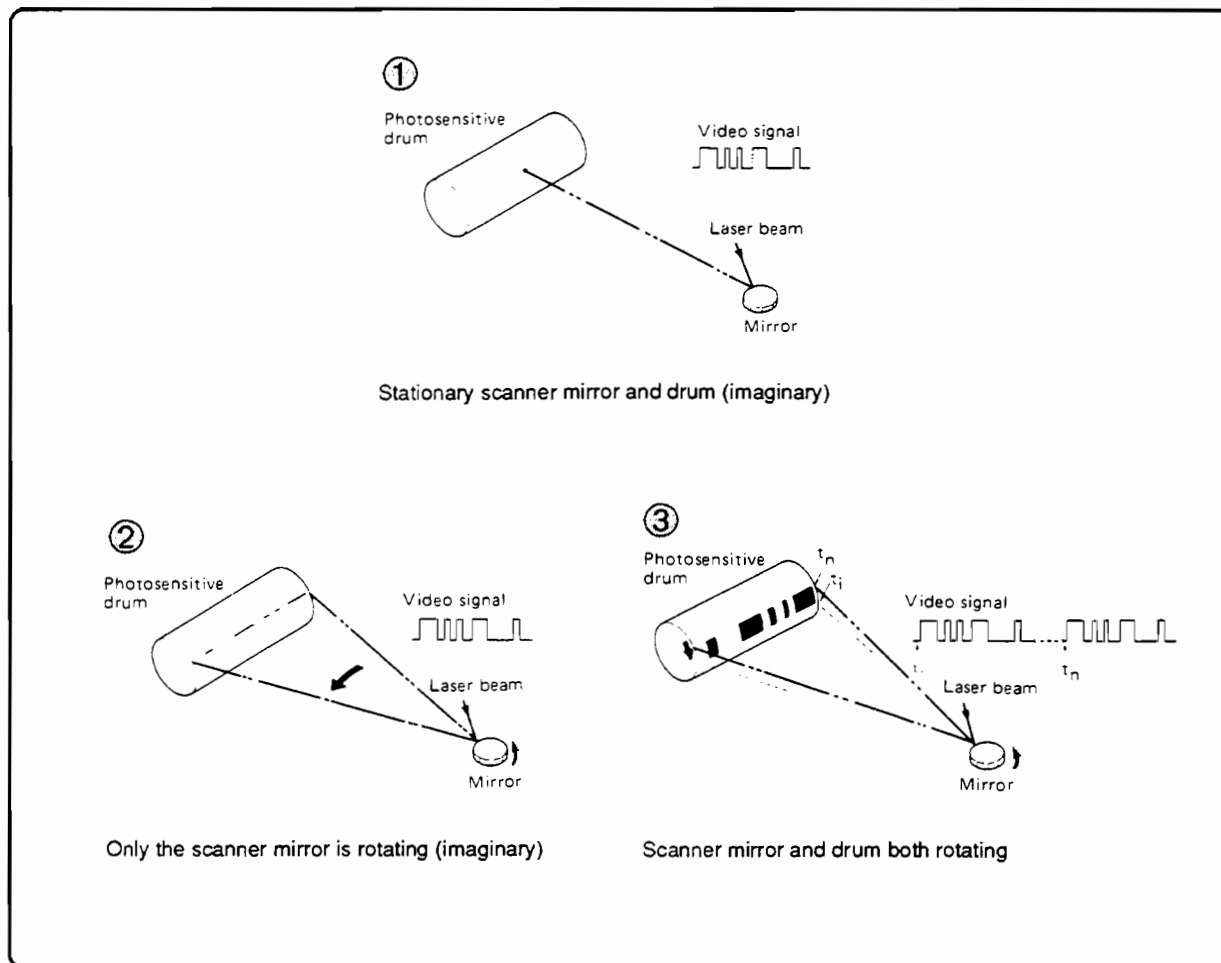

Figure 5-17. Image Exposure
The simplest (imaginary) example of image exposure is the case in which the drum motor does not rotate and the laser beam does not scan across the drum, i.e., the laser beam is focused on one point on the drum. See Figure 5-17 (1).
When the scanner mirror is in rotation and the laser beam strikes a face of the scanner mirror, the reflected laser beam scans (shown on the drum) from one end of the drum to the other. A broken line is produced by switching the laser beam on and off during the horizontal scan. (This occurs in response to the video signal.) See Figure 5-17 (2).
Thus, repeated laser beam scanning across the drum combined with rotation of the drum builds up an optical image on the drum. See Figure 5-17 (3).